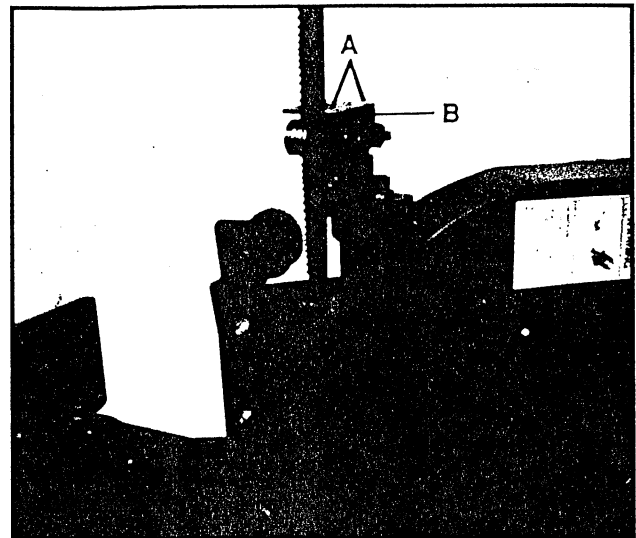

Fig. 17
3. Remove two screws (A, Fig. 17) and remove the deflector plate (B, Fig. 17).